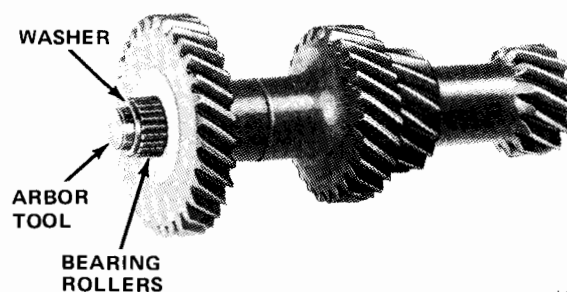

Fig. 6-27 Countershaft Gear Arbor Tool Installed
(1) Install reverse idler gear, roller bearings, and thrust washer using Tool J-25203.
(2) Install reverse idler gear shaft (forcing out Tool J-25203). Be sure slotted end of shaft is correctly aligned with lock plate.
(3) Install center spacer and Arbor Tool J-25199 in countershaft gear bore.
(4) Install bearing washer at each end of center spacer. Slide washers over arbor tool until seated against spacer.
(5) Install 22 roller bearings at each end of countershaft gear and install bearing washer over roller bearings at each end of gear (fig. 6-27 and 6-28).
(6) Coat large countershaft gear thrust washer with petroleum jelly and install at front of case.
(7) Coat small countershaft gear thrust washer with petroleum jelly and install on countershaft gear hub with lip facing groove in case.
(8) Position countershaft gear assembly in case. Align gear bores with case bores and install countershaft from rear of case. Be sure lock plate slot in shaft is correctly aligned with slot in reverse idler